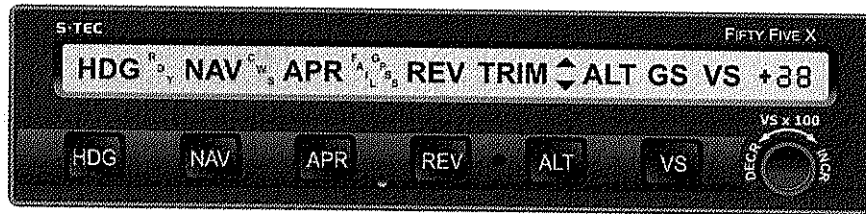
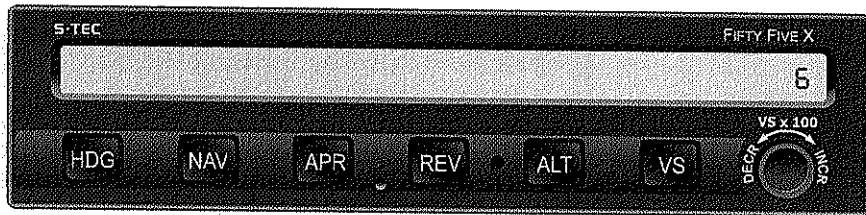
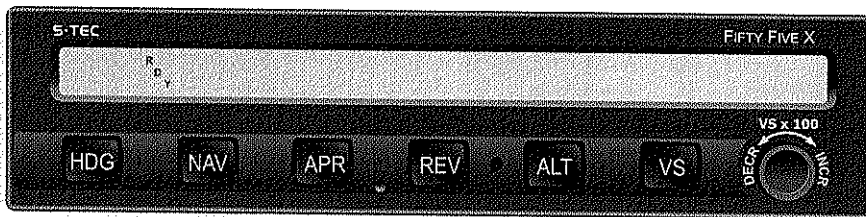

Fig. 2-1. AP Display, All Annunciators at Power-Up
Fig. 2-2. AP Display, Software Revision Number
Fig. 2-3. AP Display, Ready for Operation
5. Set Autopilot Master Switch to one of the following positions, whichever is applicable:  FD/AP (Flight Director Installed)  AP (No Flight Director)	All annunciations appear on AP display as shown in Fig. 2-1 for 10 seconds, and then extinguish.  For Programmer/Computers with serial number greater than 3001, software revision number briefly appears on AP display between 10 and 20 seconds following power-up, as shown in Fig. 2-2.  RDY annunciation alone re-appears on AP display within 3 minutes, as shown in Fig. 2-3 (Notes 1, 2).